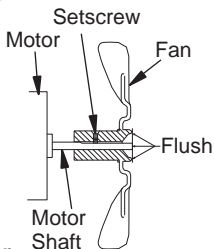

Figure 9 - Fan Cross Section
6. Replace fan on motor shaft. Place fan hub flush with end of motor shaft (see Figure 9).